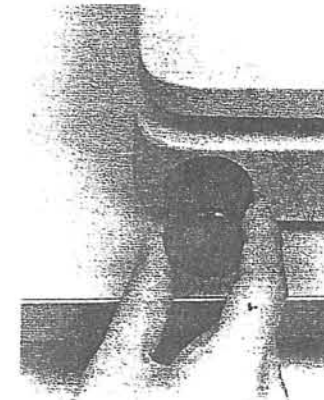
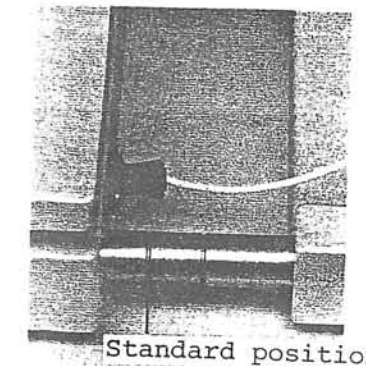

Fig. 4
Fig. 5
5. Determine the face rest position by turning the face rest forward/backward adjustment knob clockwise or counterclockwise as desired. (Fig. 4) The second line on the face rest protrusion indicates standard position. (Fig. 5)